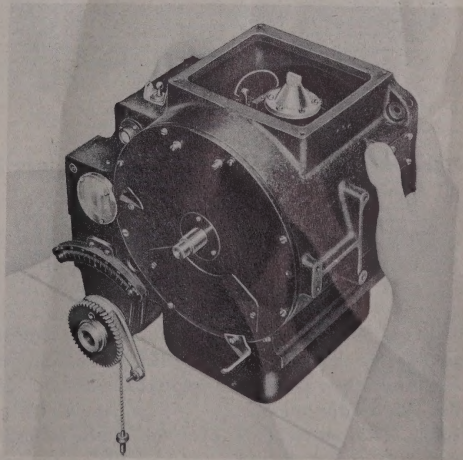

Figure 296 — Rocking to Determine Balance About Plane 2
(c) **BALANCE THE ROTOR AND CASE ASSEMBLY ABOUT PLANE "2".** (See figure 296.)—As explained in the theory of balance, this section, paragraph 2, *b*, (2), the rotor and case assembly must be tested for balance about two perpendicular planes intersecting at right angles through the axis of the rotor case bearing. To balance the rotor and case assembly about plane 2, which is the horizontal plane through the rotor case bearings, it is necessary to
bring this plane into a vertical position by tipping the stabilizer up on the torque motor cover as shown in figure 296. With the stabilizer in this position and the rotor shaft in a vertical position, rock the case rapidly and evenly about the point at which the torque motor cover contacts the table. This will relieve the static friction on the rotor case bearings, and heaviness on either side of plane 2 will cause the rotor case to tip away from its vertical position. Add or remove weights at the points indicated in figure 297 to correct this unbalance, and recheck this balance about plane 2.